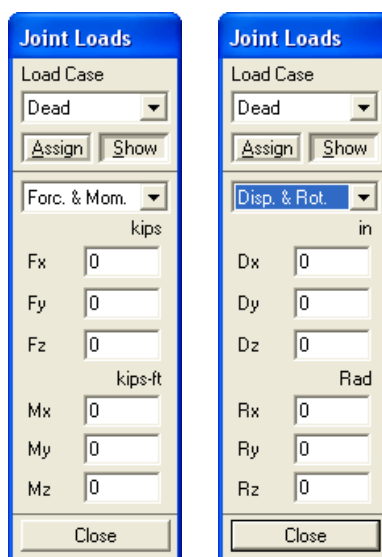

Figure 5-21 Joint Loads dialog box
- From the **Assign** menu, choose **Joint Loads**. The modeless dialog box of Figure 5-21 appears. This box has two modes, ASSIGN and SHOW. To close the box and end joint loads assignment, choose the CLOSE button.